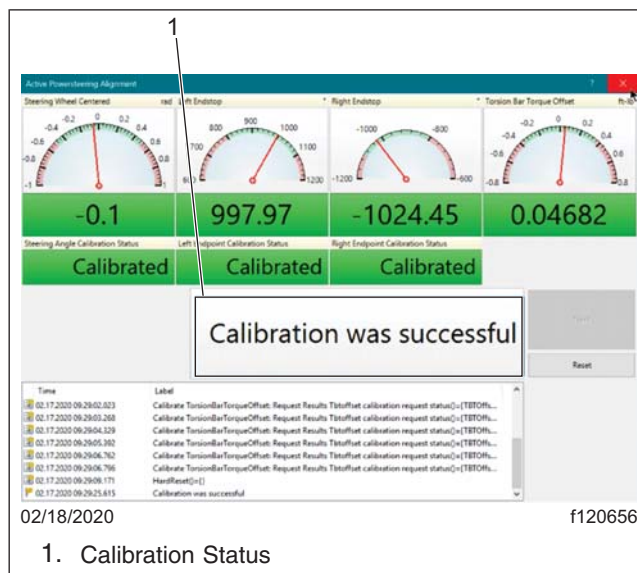

Fig. 7, Calibration Status
17. In the Actions menu, select the 'Active Powersteering Alignment' routine. Check the panel to determine if calibration is required. See **Fig. 7**.